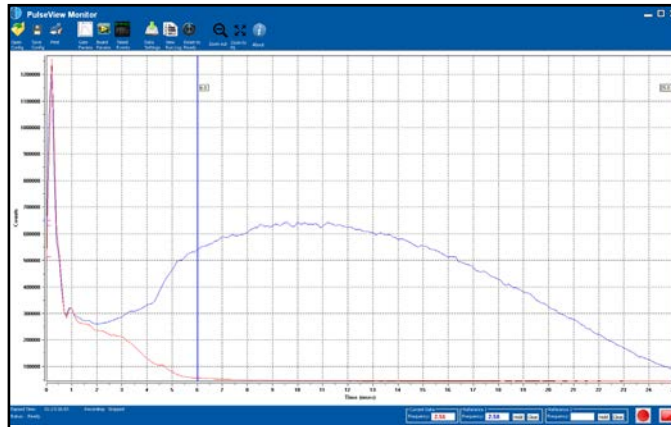

Figure 6.5. Sulfur Emission and Gate Settings for Maximizing Sulfur Response Using a 2-mm Combustor
5. In the Gate Parameters screen, set the integration gate's start and stop times (recommend 6 ms and 24.9 ms respectively) to optimize sulfur detectivity. If the gas flow rates are properly set, the sulfur emission extends to 24 ms or beyond for 2-mm combustors (Figure 6.5).
4. Delay the gate start time relative to that shown in Figure 6.5 (i.e., increase the gate A **Start Time** in the Gate Parameters screen to 6-8 ms), minimizing the hydrocarbon and sulfur response overlap. Due to the sulfur emission's long time domain, a correctly delayed gate virtually eliminates carbon interferences without using dual gate techniques.